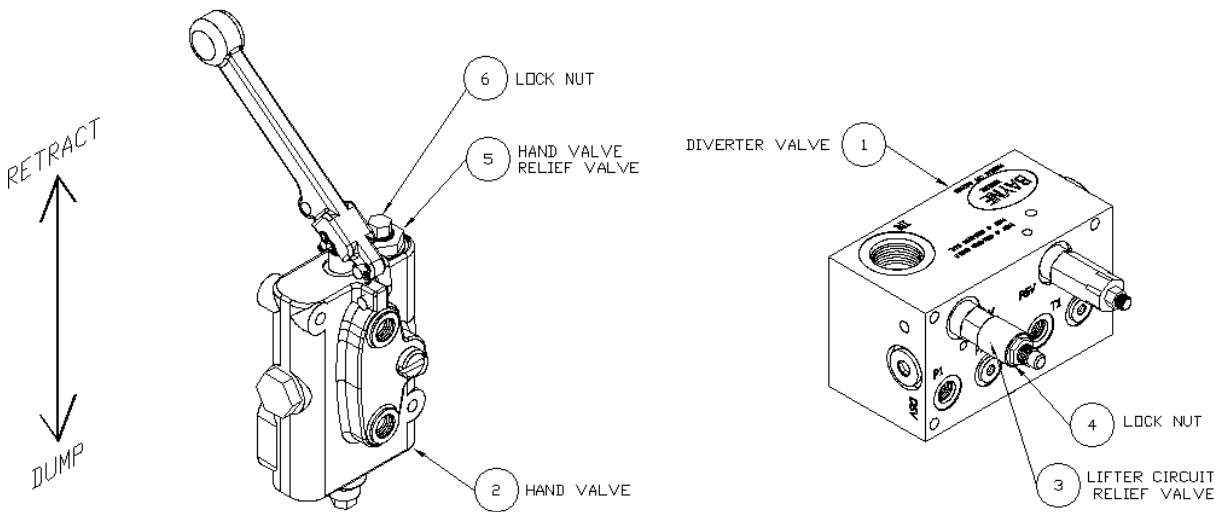

figure I-3
The diverter valve (1) (figure I-3) supplies the cart lifter hydraulic system with approximately 2 GPM of oil flow. This diverter valve is equipped with a lifter circuit relief valve (3) set at 2500 psi, to prevent the diverter valve from shutting down if a blockage occurs in the lifter circuit. There is also a relief valve (5) set at 1800 psi in the hand valve (2) to protect the lifter from excessive pressure. These relief valves are preset from the factory to operate properly on most trucks with a system pressure between 2300 and 2500 psi without any adjustment. However, if any adjustment is necessary, follow these instructions.
2. Loosen the lock nut (6) (*figure I-3*) from the hand valve relief valve (5) and turn the adjustment screw clockwise until it bottoms out.
3. Loosen the lock nut (4) (*figure I-3*) on the lifter circuit relief valve (3) and turn the adjustment screw clockwise until it bottoms out.
5. Operate the handle on the hand valve (2) (*figure I-3*) back and forth a few times to bleed all air from the lifter hydraulic system.
- a) Have an assistant hold the handle on the hand valve (2) (*figure I-3*) (*with pressure gauge installed at the "IN" port*) in the "retract" position to show pressure on the gauge.
- b) Turn the pressure relief adjusting screw on the lifter circuit relief valve (3) counter-clockwise until the pressure reading on the gauge is either 100 psi less than the truck system pressure or 2300 psi, which ever is the lowest.
- a) Hold the handle on the hand valve (2) (*figure I-3*) (*with pressure gauge installed at the "IN" port*) in the "retract" position to show pressure on the gauge.
- b) Turn the pressure relief adjusting screw on the hand valve relief valve (5) counter-clockwise until the pressure reading on the gauge is either 200 psi less than truck system pressure or 1800 psi, which ever is the lowest.
13. Tighten the lock nut (6) (*figure I-3*) on the hand valve relief valve (5) to secure the correct pressure setting.
14. Tighten the lock nut (4) (*figure I-3*) on the lifter circuit relief valve (3) to secure the correct pressure setting.